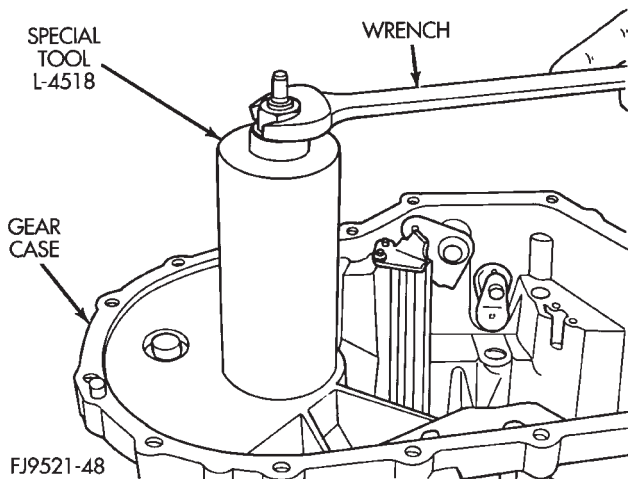

Fig. 141 Tool Cup Installed
(3) Install the tool cup over the tool (Fig. 141).